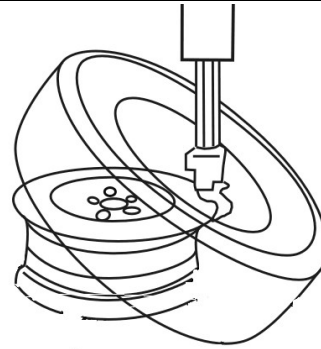

Fig.22
- Place the tyre on the rim and make the column return to working position.(Fig. 22)